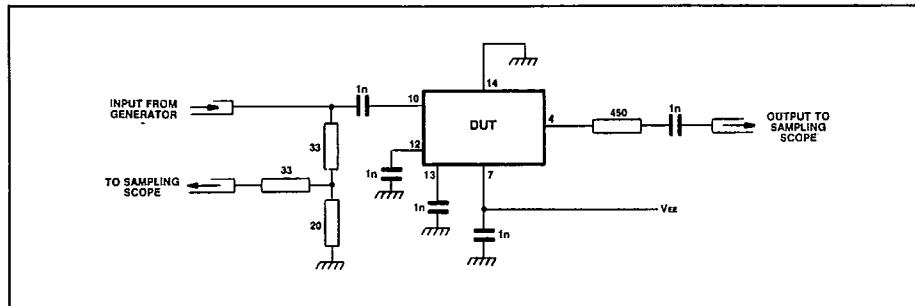

Fig.5 Test circuit
- The test configuration for dynamic testing is shown in Fig.5.